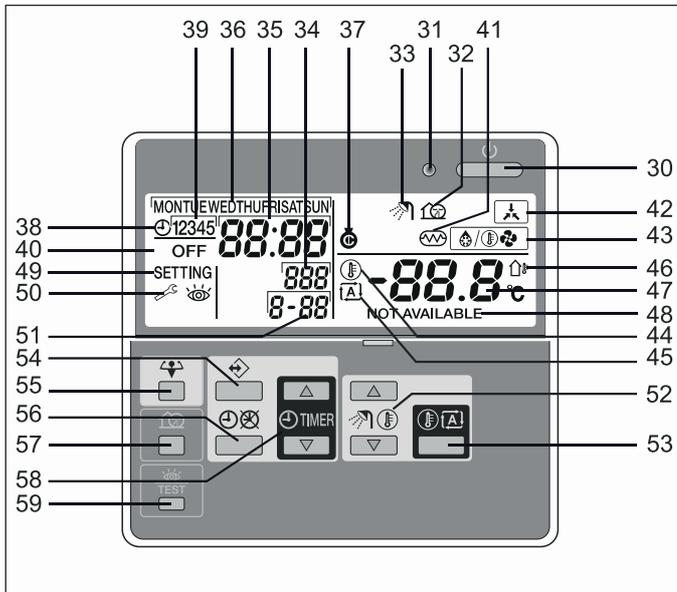

Fig. 7-1 For display and operating elements of the control - legend see tab. 3-1 and the following description
- ➔ The display (fig. 7-1, item 34) shows the sensor number 001.